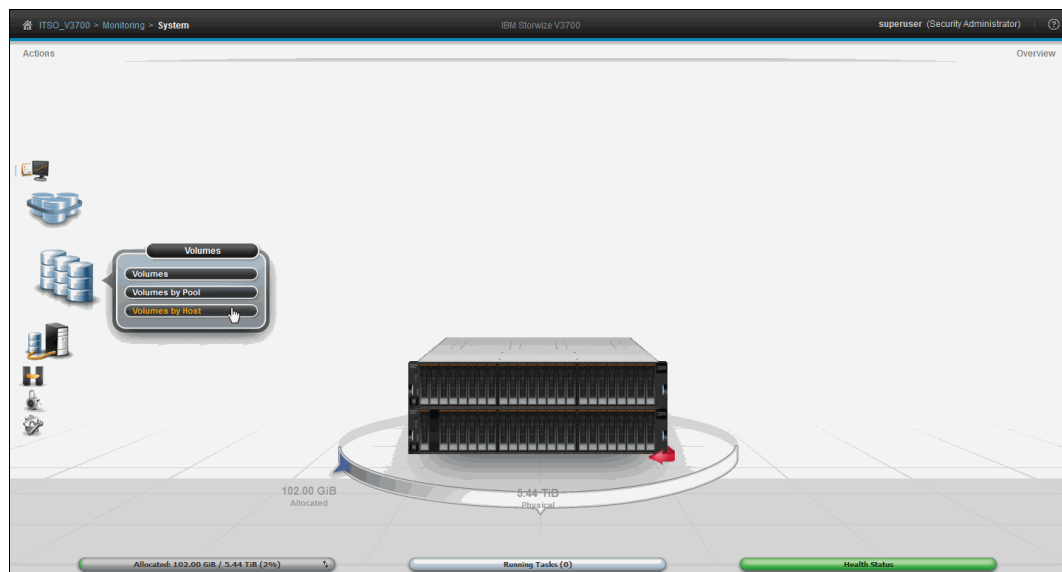

Figure 5-25 Opening the Volumes by Host view
1. Open the volumes by host view by going to **Volumes** → **Volumes by Host**, as shown in Figure 5-25.